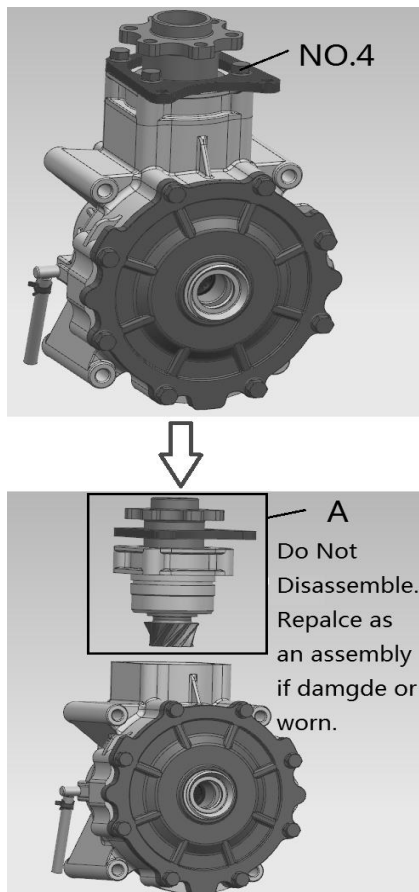

**Fig 3**
- 4.Remove the Bolts M8×50 (NO.4), Remove assembly (A). →Fig 3